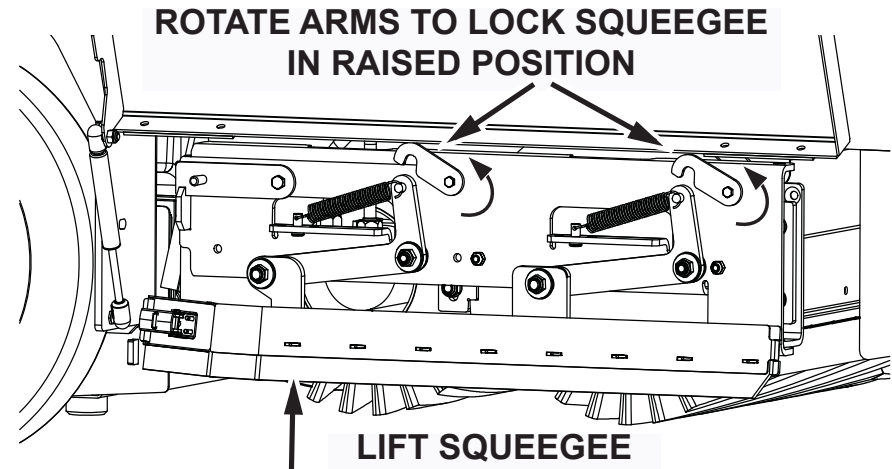

Fig. 1: Shows squeegee assembly retaining arms
1. Manually lock both side squeegee blades in the raised position. Open the scrub brush door. Lift the side squeegee assembly and rotate the lock arms counter-clockwise until they latch and lock the squeegee blade in the raised position. See Fig. 1.